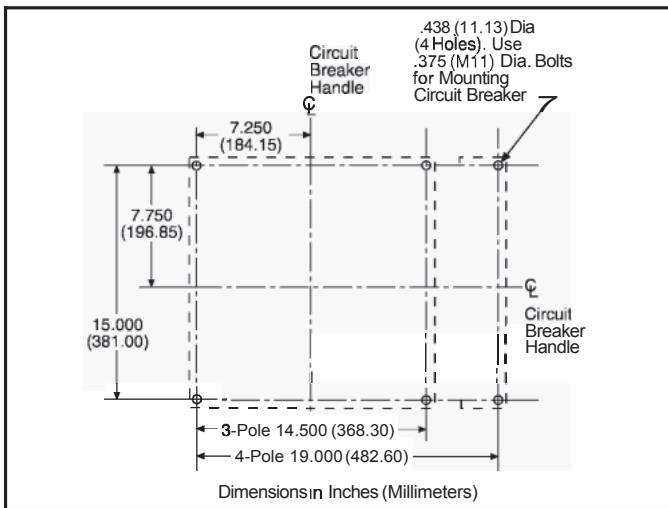
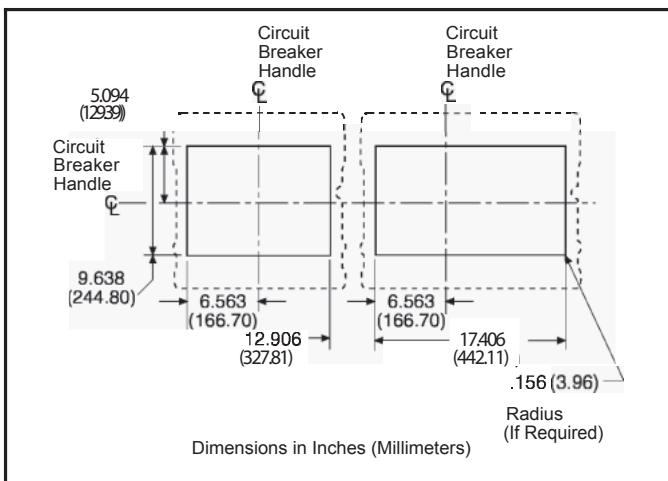

Fig. 2-3 Circuit Breaker Mounting Bolt Drilling Plans
Fig. 2-4 Circuit Breaker Escutcheon Dimensions for 3 and 4-Pole Circuit Breakers
- For individual surface mounting, drill mounting panel using the drilling plan shown in Fig. 2-3. For dead-front cover applications, cut out cover to correct escutcheon dimensions, see Fig. 2-4.